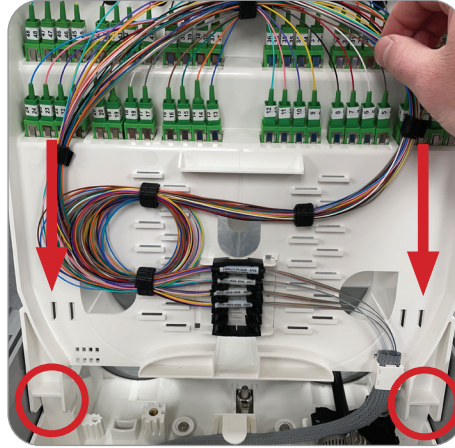

Figure 65
2. Position the adapter panel over the hinges and push downward to reattach (Figure 65).